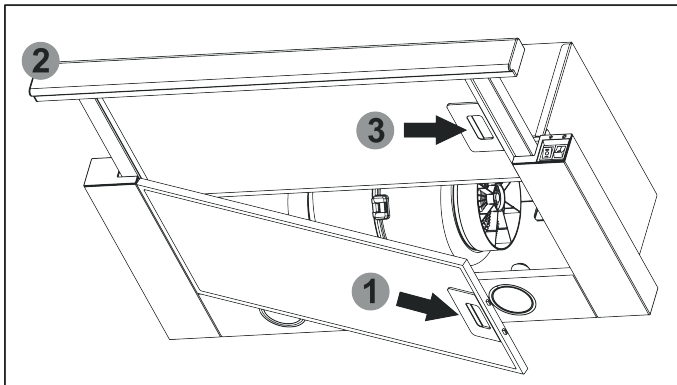

Fig.6
7.9 To remove an aluminium filter (Fig. 6), press on the spring sliding part 1. Remove the pull-out panel with filter 2 and remove the aluminum filter 3. Perform the procedure inversely to install a filter.